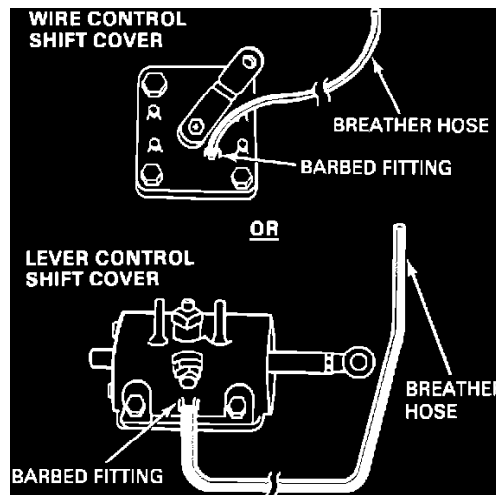

FIGURE 3
3. Remove the barbed fitting and breather hose from the P.T.O. shifter cover, Figure 3.